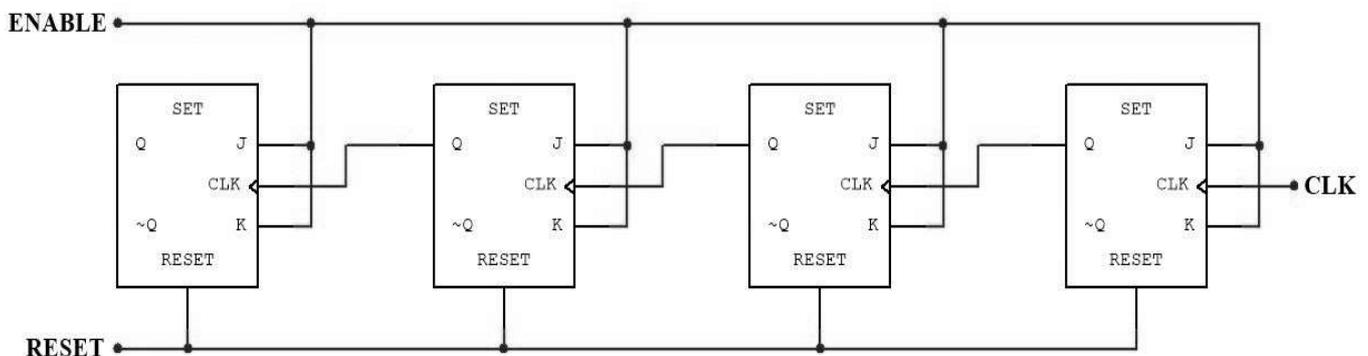

Figure 4.1. Binary Ripple Up Counter
Figure 4.1 shows a binary or ripple up counter. JK flip-flops are used because of their versatility. The *J* and *K* inputs are all connected together to an ENABLE input. When ENABLE is OFF (low), all the JK inputs are held low, placing the flip-flops into a ‘no change’ condition. Once the ENABLE is set ON (high), the JK inputs are forced high and each flip-flop is set into a ‘toggle’ condition. Each flip-flop will change state when a positive to negative transition is experienced on its *CLK* input.
1. Which flip-flops are set in figure 4.1 after seven clock cycles are applied following the release of the RESET signal?
2. What is the highest binary number that could be represented by the counter in figure 4.1 if the *CLK* input to *FF*₃ were open?